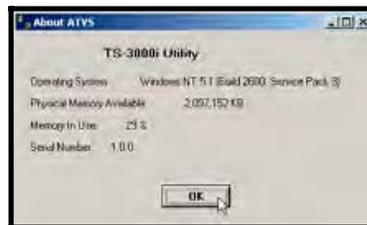

Figure 5-15: TS-3000i Utility About
- **About** – Use this function to display the About screen (see Figure 5-15). Click on the **OK** button to close.